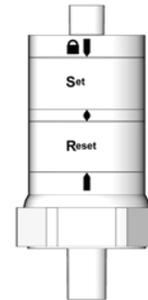

FIG. 2
4. Rotate the top portion of the switch to align the lock symbol with the two white arrows (FIG. 2).